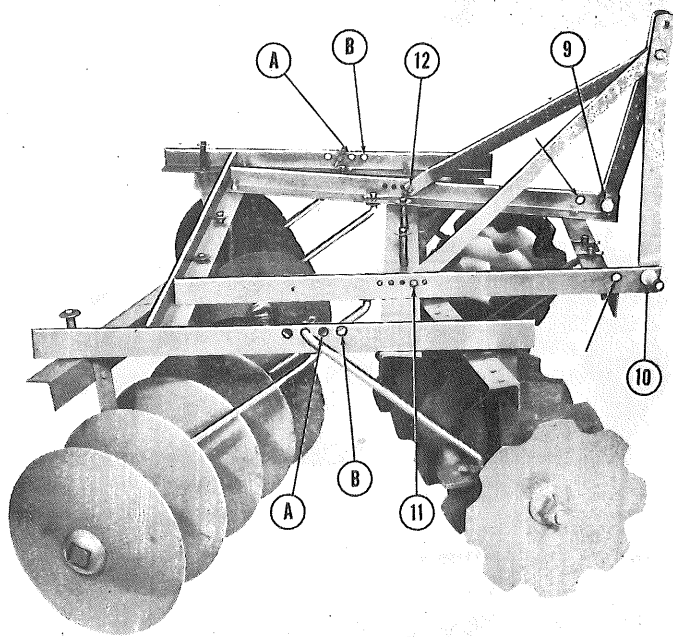

FIG. 6
The Harrow as shown in Fig. 6 was set up in a medium Cutting Position. To increase the Cutting Angle of the Front Gangs advance the Push Rods to one of the other positions at Point (A) or (B) as shown in Fig. 6. To increase the Cutting Angle to the Rear Gangs advance the Pull Rods as shown in Fig. 4 to positions (C) or (D). After the desired cutting adjustment has been made, secure all Cotterkeys and tighten all Bolts.
At this point the Tractor should be placed in front of the Harrow. This will give the operator a true setting of the "A" Frame, Fig. 6. You will note there are two sets of large holes in the front end of the Main Frame Lift Angles, the Pull Pins should be placed in the holes that will place the Harrow as close to the Tractor wheels as possible. (When the Harrow is in a raised position the clearance from the rear tires should be about two inches for correct draft control.) Mount the Upright Bars of the "A" Frame in back of the holes selected and mount with the Pull Pins at points (9) and (10). Bolt the "A" Frame Rear Braces to the Main Frame Lift Angles at points (11) and (12). If the Pull Pin Rear Holes are used on the Main Frame Lift Angles select the holes behind points (11) and (12).